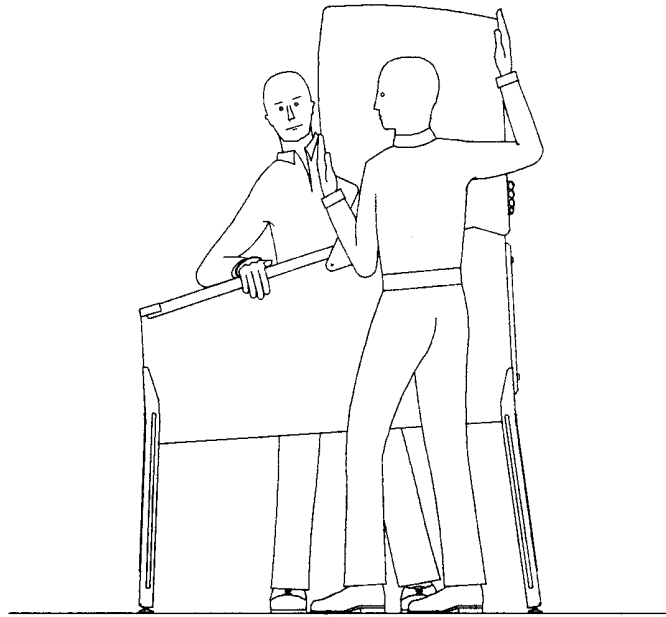

FIGURE 9
8. **WITH THE HELP OF ANOTHER PERSON, carefully lift the backbox and set it on the cabinet.** See Figure 9.